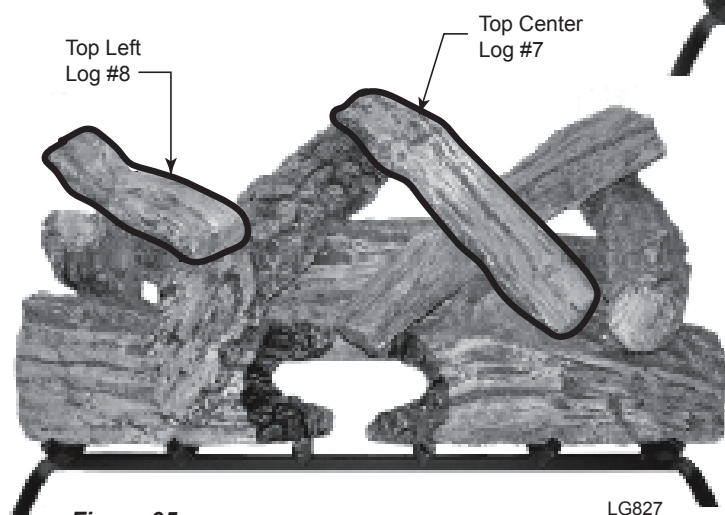

**Figure 95 -
9. Lay top center log #7 across log #5 with front end resting on log #1b. *Figure 95*
10. Place front end of top left log #8 on log #6. Allow back end of log #8 to rest on log #3. *Figure 95*